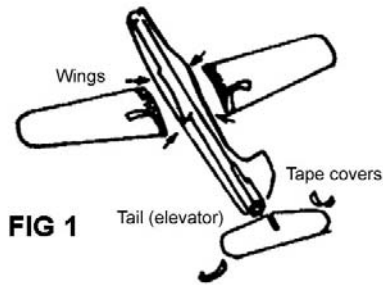

FIG 1
1. Remove the taped covers from the wing and tail mounts. (FIG 1)
2. Press wing panels and horizontal tail wing to fuselage mounts. (FIG 1)